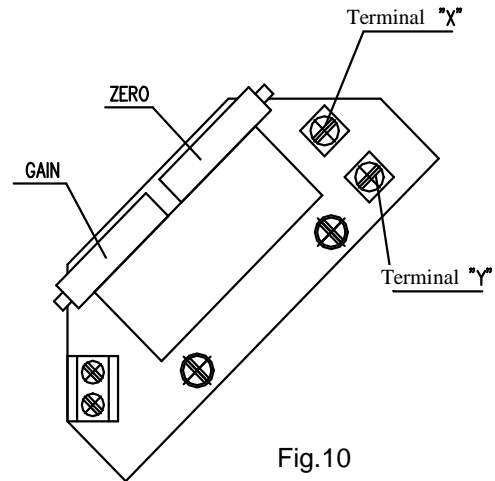

Fig.10
### 4.6.1 EPV – the 2-wire version (Fig. 10,10a)
- Adjust the resistive transmitter according to the previous chapter. The resistance is to be metered on the terminals X-Y (Fig. 10,10a). The used transmitter resistance is 100 Ω.